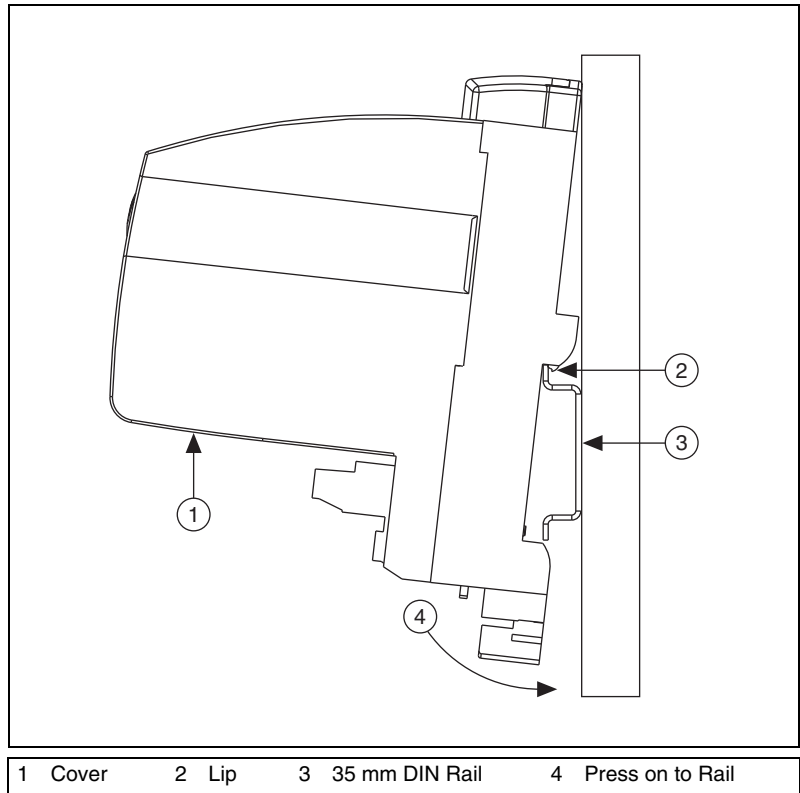

Figure 2-11. Mounting the FBUS-HSE/H1 LD on a DIN Rail
- Hook the lip on the rear of the FBUS-HSE/H1 LD onto the top of a 35 mm DIN rail and press the FBUS-HSE/H1 LD down onto the DIN rail, as shown in Figure 2-11.